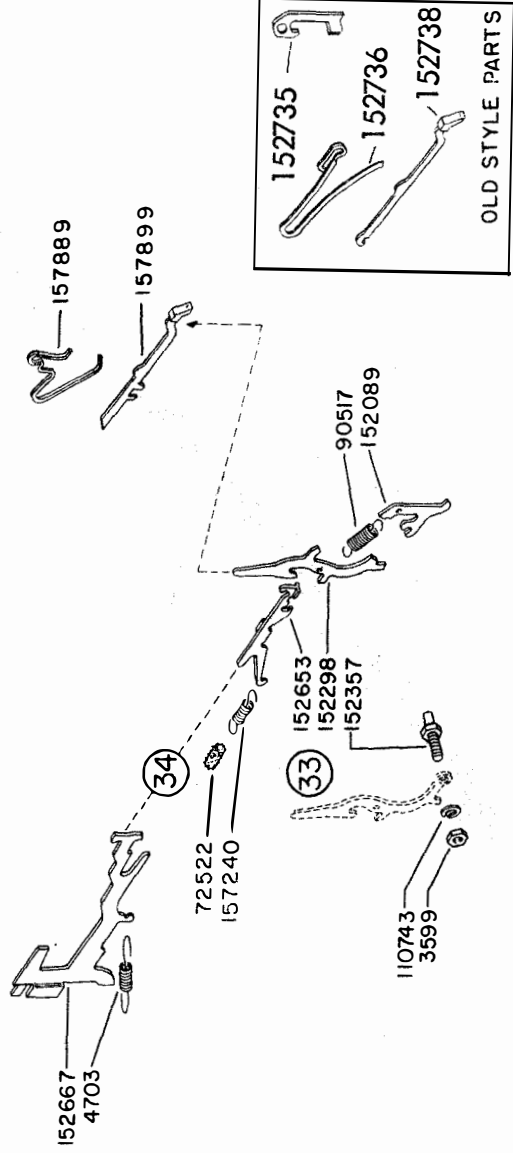

FIGURE 2-69 153948 MODIFICATION KIT TO PROVIDE TIME DELAY MOTOR STOP DISABLER
b. 153948 Modification Kit (Figure 2-69)